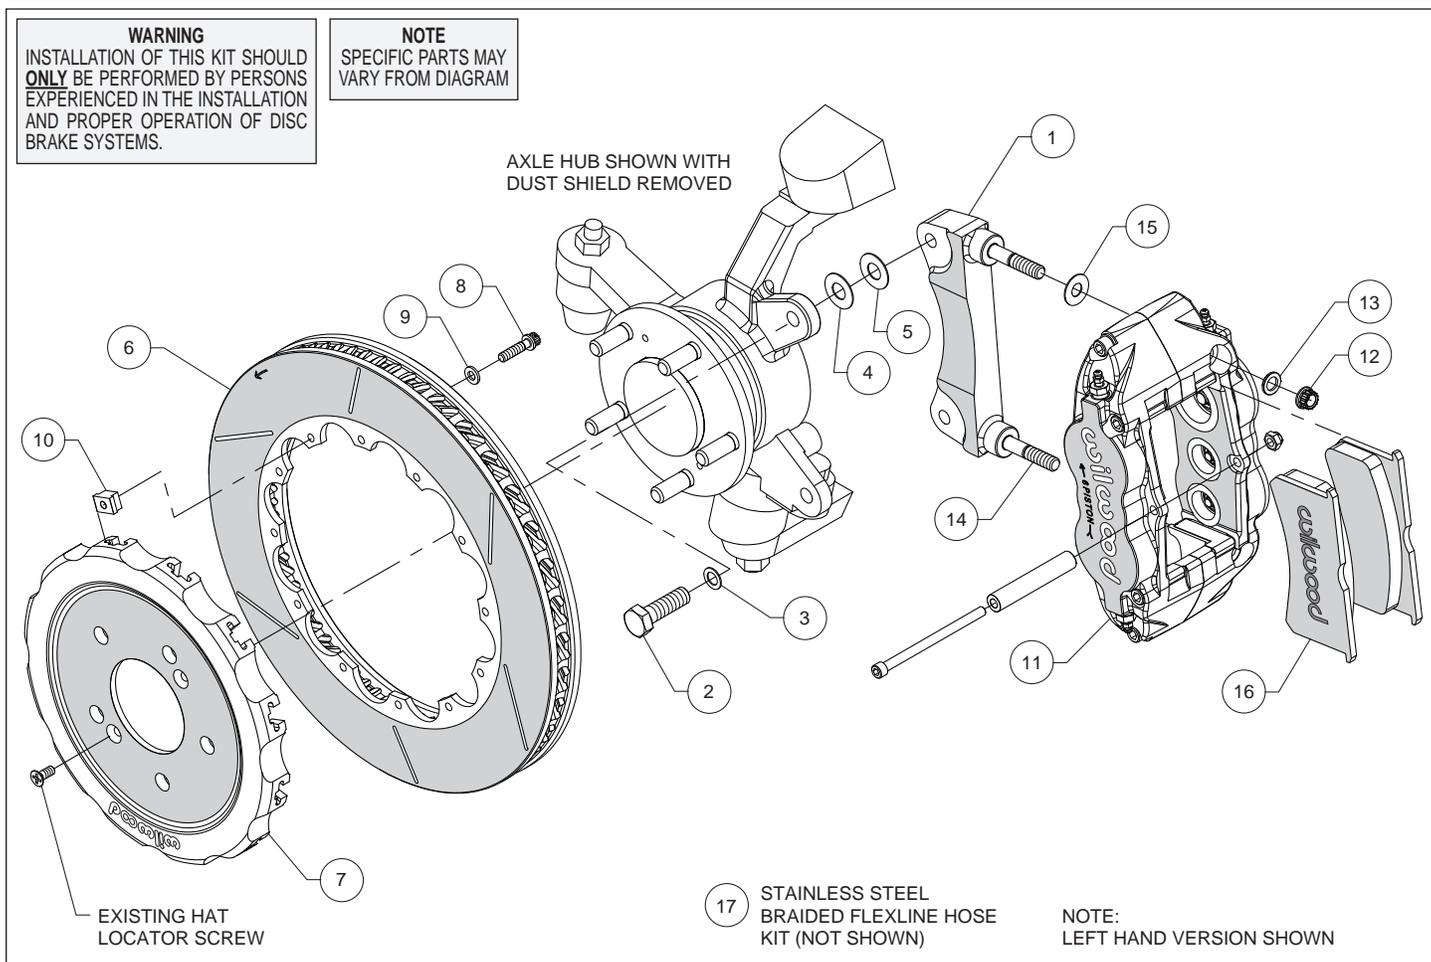
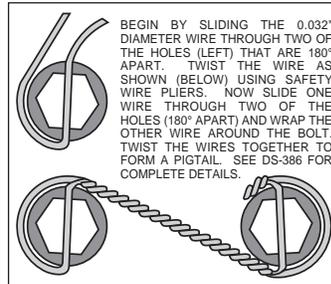

Figure 1. Typical Installation Configuration
Figure 3. Safety Wire Diagram
Assembly Instructions (numbers in parenthesis refer to the parts list and Figure 1 on the preceding pages):
- The caliper mount bracket (1) should initially be installed with clean, dry threads on the mounting bolts. Orient the bracket, as shown in Figure 1 and Photo 1, and install using bolts (2) and washers (3). Initially place one .033" thick shim (4) on each bolt between the bracket and upright, Figure 1. Temporarily tighten the mounting bolts. **NOTE:** *The bracket must fit squarely against the mount bosses on the upright.* Inspect for interference from casting irregularities, machining ridges, burrs, etc. Later, after the caliper alignment has been checked, the mount bolts will be secured using red *Loctite*® 271.
- Orient the rotor (6) and the hat (7) as shown in Figure 1 and Photo 2. Attach rotor to hat using bolts (8), washers (9), and t-nuts (10). Follow additional instructions included with the bolt kit. Using an alternating sequence, apply red *Loctite*® 271 to the threads, and torque to 120 in-lbs. Safety wire bolts using standard 0.032 inch diameter stainless steel safety wire as shown in Figure 3. Please refer to Wilwood's data sheet DS-386 (available at www.wilwood.com/Pdf/DataSheets/ds386.pdf) for complete safety wire installation instructions.
- NOTE:** *This kit contains distinct right and left hand calipers that must be mounted in a specific direction, as described below.* Lubricate the caliper mounting studs (14) with lightweight oil. Initially place one .035" thick shim (15) on each stud between the caliper and the bracket, as shown in Figure 1 and Photo 4. Mount the caliper (11) onto the bracket (1) using lock nuts (12) and washers (13), Figure 1. Ensure that the caliper is mounted so the largest pistons are at the rotor exit end of the caliper, in relation to the direction of rotor rotation. Temporarily tighten the lock nuts and view the rotor through the top opening of the caliper. The rotor should be centered in the caliper, Photo 5. If not, adjust by adding or subtracting shims (4 and/or 5) between the bracket and the upright. Always use the same amount of shims on each of the two mounting bolts. Once the caliper alignment is correct, remove the bracket mounting bolts (2) one at a time, apply red *Loctite*® 271 to the threads, and torque to 60 ft-lbs.